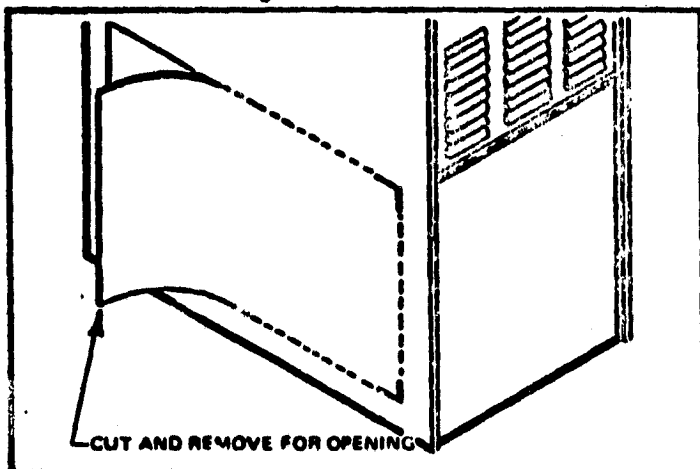

FIGURE 3
3. Cut out return air opening on desired side of G11 or G12 cabinet. See Figure 3.